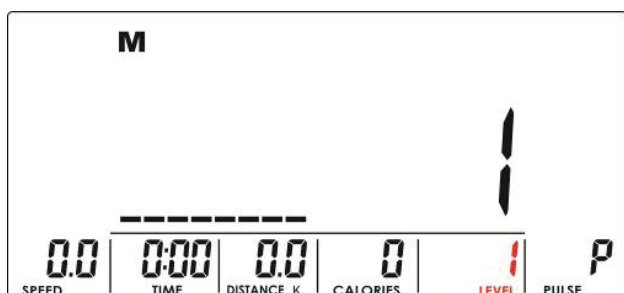
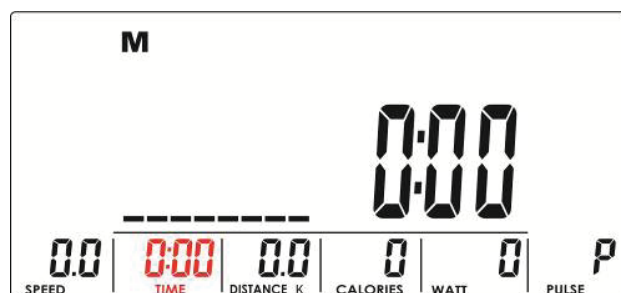

Fig. 19
Fig. 20
2. The console displays UX (fig. 19) and starts to measure (fig. 20 to 21).